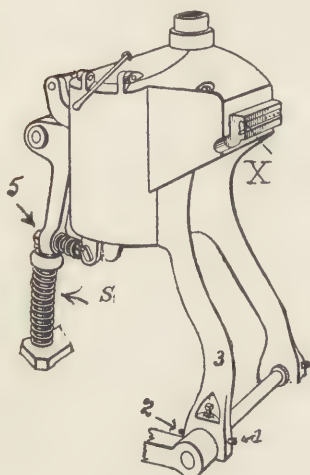

FIG. 23.
that the pot is locking very tightly on one end and not on the other, it is sometimes better to swing the pot around by means of the adjusting screws in the bottom of the pot legs. For instance, if the impression indicates that the left-hand end of the mouthpiece (X, Fig. 23) is being pressed too tightly against the mold, loosen the front screw (1) and screw in on the back screw (2) on the left pot leg (3). This will throw this end of the pot